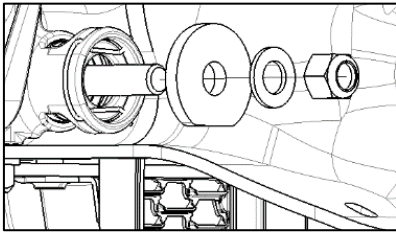

Figure 1b: Rear view of tow receiver
2. Open hood of truck. From inside front wheel wells, secure driver and passenger side Submounts with fasteners shown in Figure 1b: